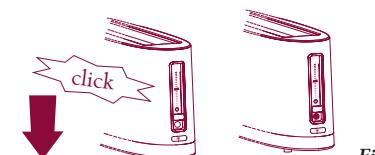

Fig. 9
- 3 Move the toasting selector down until it "clicks": the selector is now in REHEAT position . The light under the selector will turn on (fig. 9).